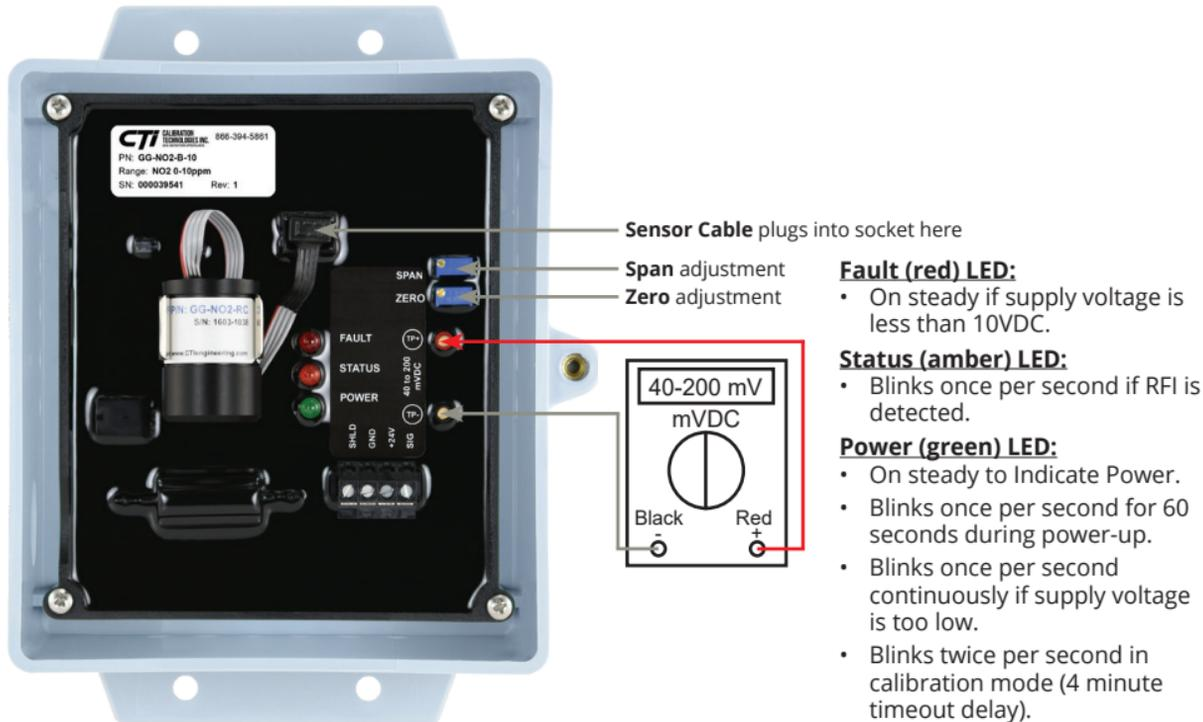

Figure 2: Sensor board components and zero/span adjustment
LED Functions (see **Figure 2** on page 8)
The GG-NO2 sensor comes factory calibrated and should require only minimal adjustments after installation. There are two pots on the preamp that are used for calibration (see **Figure 2**).
- Adjust the Zero pot until the sensor outputs 40 mV from Test [-] to Test [+] (see **Figure 2**).
- Once the output signal has peaked (or 5 minutes maximum) adjust the Span pot until the correct output is achieved (see Figure 2). With full-scale span gas, the calculated span value is 200 mV. $((\text{span gas} / \text{sensor range} * 16 + 4) \text{ (mA output)})$